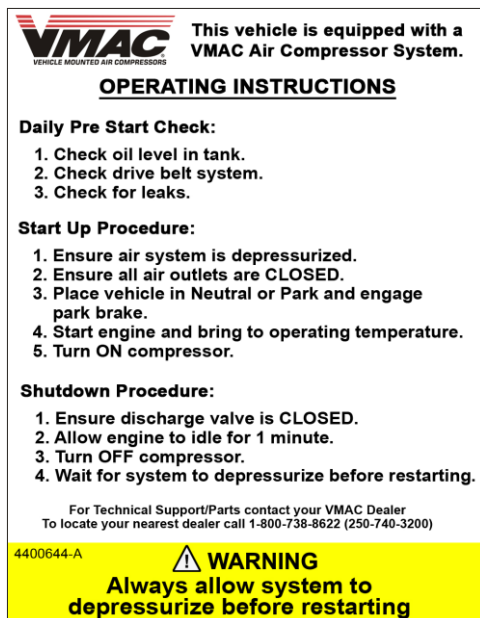

Figure 1.1
- ☐ As part of the installation process, ensure that the safety and operational instruction decal is affixed in an obvious location so that it can be seen by vehicle operators. A good spot for this is usually on the inside of the door or on the panel underneath the steering wheel. (Fig. 1.1).